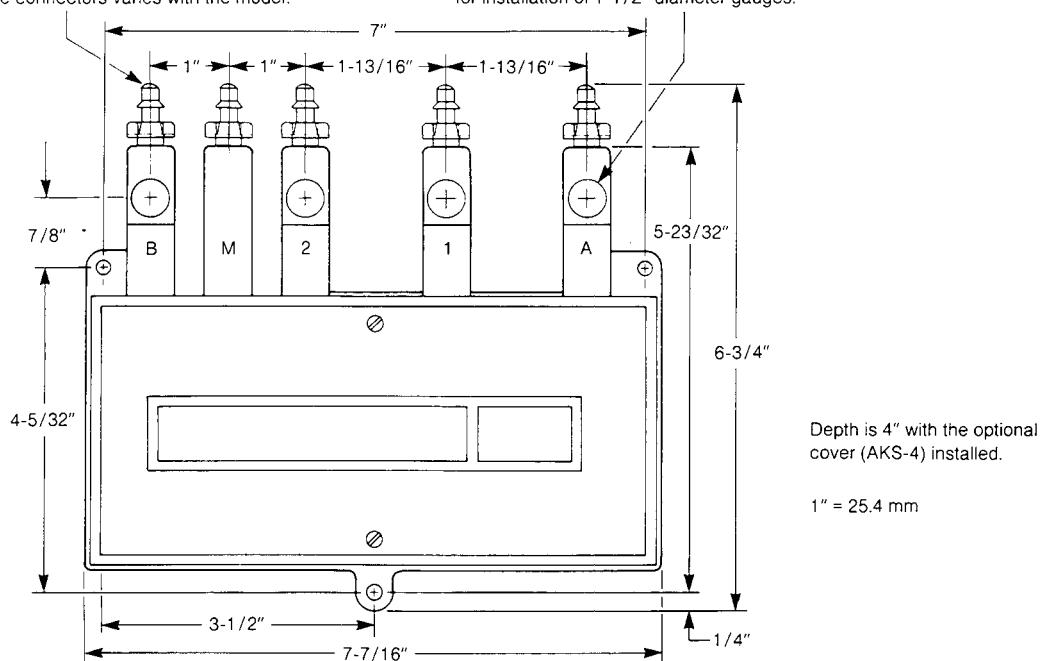

Figure 1 Mounting Dimensions and Port Connections.
Mount the receiver-controller in an upright position on wall, panel, etc., using the three (3) mounting screws provided. Refer to dimensional drawing (Figure 1) shown below for location of port connections.